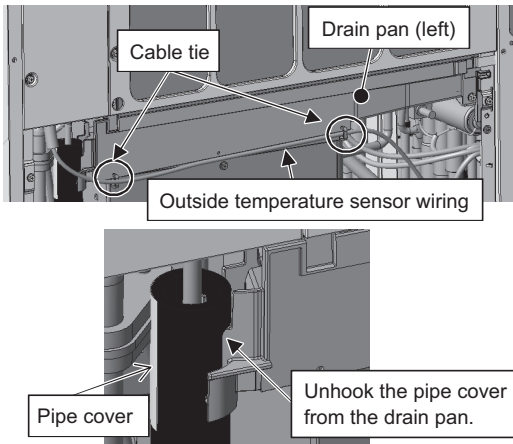

Figure 3
- (2) Remove the external temperature sensor wiring from the left drain pan by cutting the two cable ties. Unhook the pipe cover from the left drain pan. (See Figure 3.)